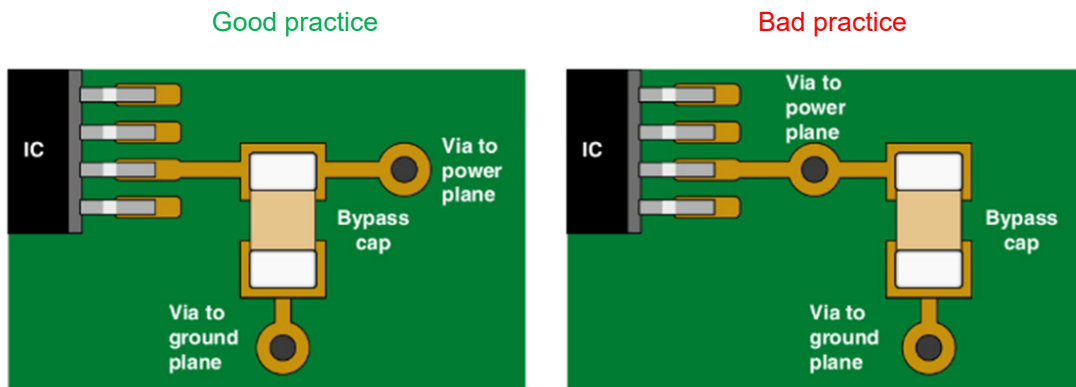

Figure 9. Decoupling Capacitor Layout Practices
- Place the decoupling capacitors in the same layer of the part with a short connection to ground (see Figure 9)